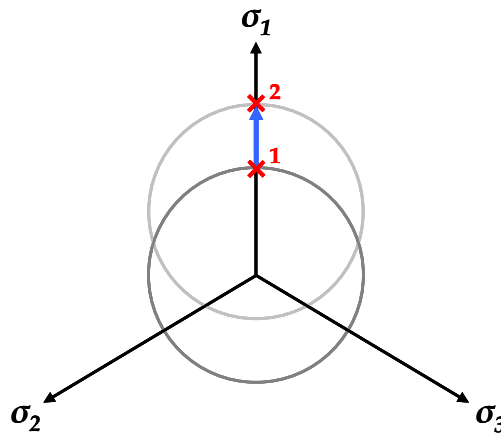

Figure Q16
16. The translation of the yield surface shown in Figure Q16 represents